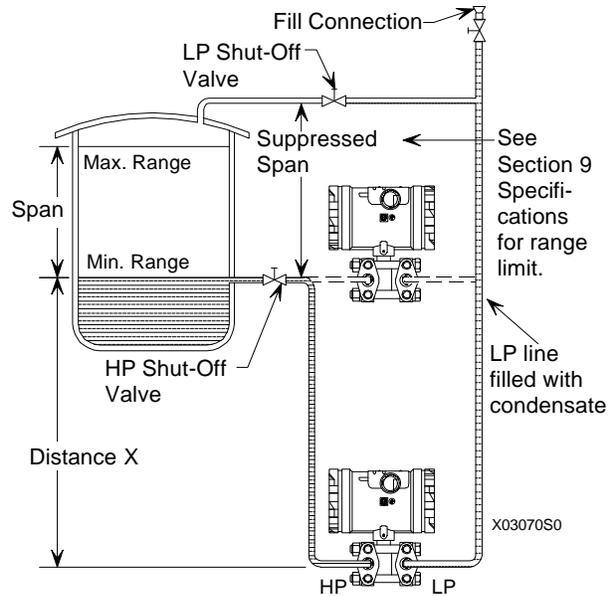

FIGURE D-2 Suppressed Span Example
- Suppressed Span - The LRV of the transmitter needs to be configured below “0.” See Figure D-2.